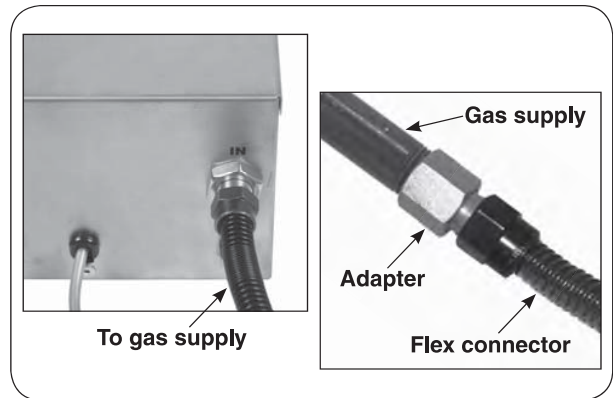

Fig. 6-2
2. Remove the adapter that is loosely connected to the flex connector. Attach the adapter to the gas-supply stub using a pipe compound resistant to all gasses. Tighten securely. Then attach the open end of the flex connector to the adapter. Tighten securely (See Fig. 6-2).